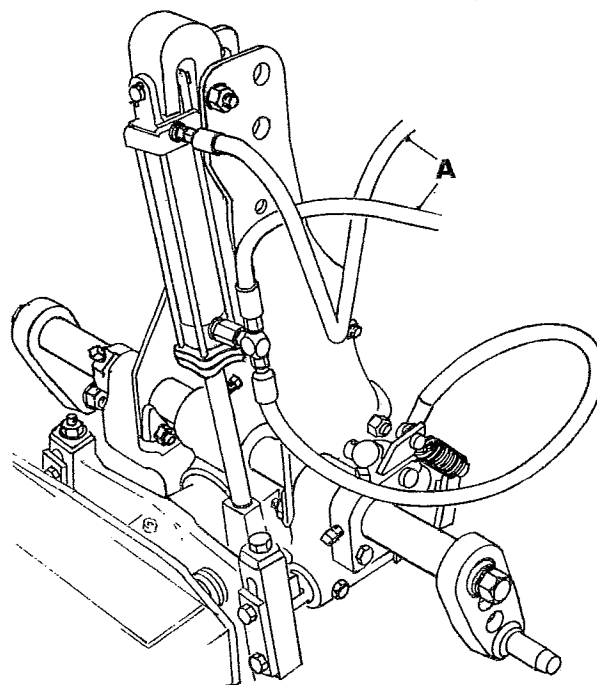

Fig. 2
If the plough is fitted with hydraulic reversing head connect the two hoses 'A' (Fig. 2) to the tractor valve.
6. HYDRAULIC REVERSING HEAD (Fig. 2)